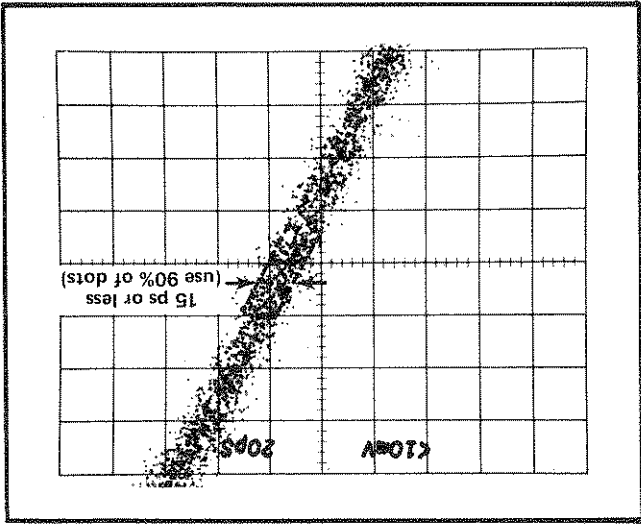

Fig. 5-3. Typical waveform to observe INPUT signal to Trigger Out signal jitter in step 4.
- e. Use 90% of the dots displayed in the rising portion of the signal to measure the jitter to be 15 ps or less. See Fig. 5-3.